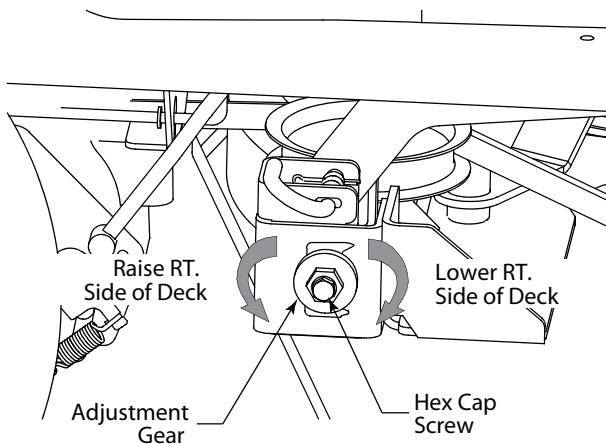

Figure 6-6
- Loosen, but do not remove, the hex cap screw on the right deck hanger bracket. Refer to Figure 6-6.
- Level the deck by using a wrench to turn the adjustment gear (found immediately behind the hex cap screw just loosened) clockwise to lower the right side of the deck, or counterclockwise to raise the right side of the deck. See Figure 6-6.